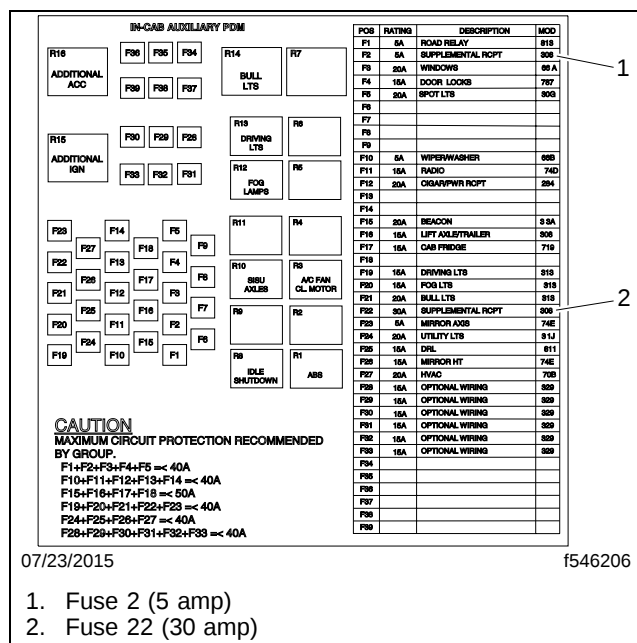

Fig. 2, Current Dash PDM Label
6. Remove fuse F2 (5 amp), and fuse F22 (30 amp) from the dash PDM. See **Fig. 2**.